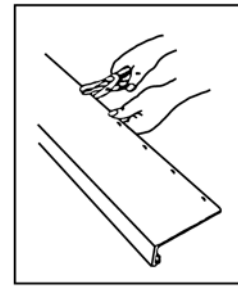
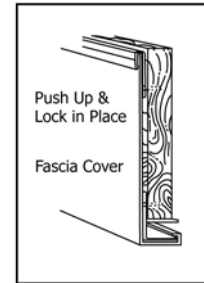

FIG. 34 Punch Snaplock Ears on Fascia Cover
FIG. 35 Positioning of Fascia Cover
11.4.2 Measure the cover required and cut the fascia cover to proper width. Punch snaplock “ears” every 6 in. (152 mm) along the top of the fascia using a snaplock punch. (See Fig. 34.) Position the panel and secure the bottom lip of the fascia over the F-channel or J-channel, (see Fig. 35.), and snap into the undersill trim.